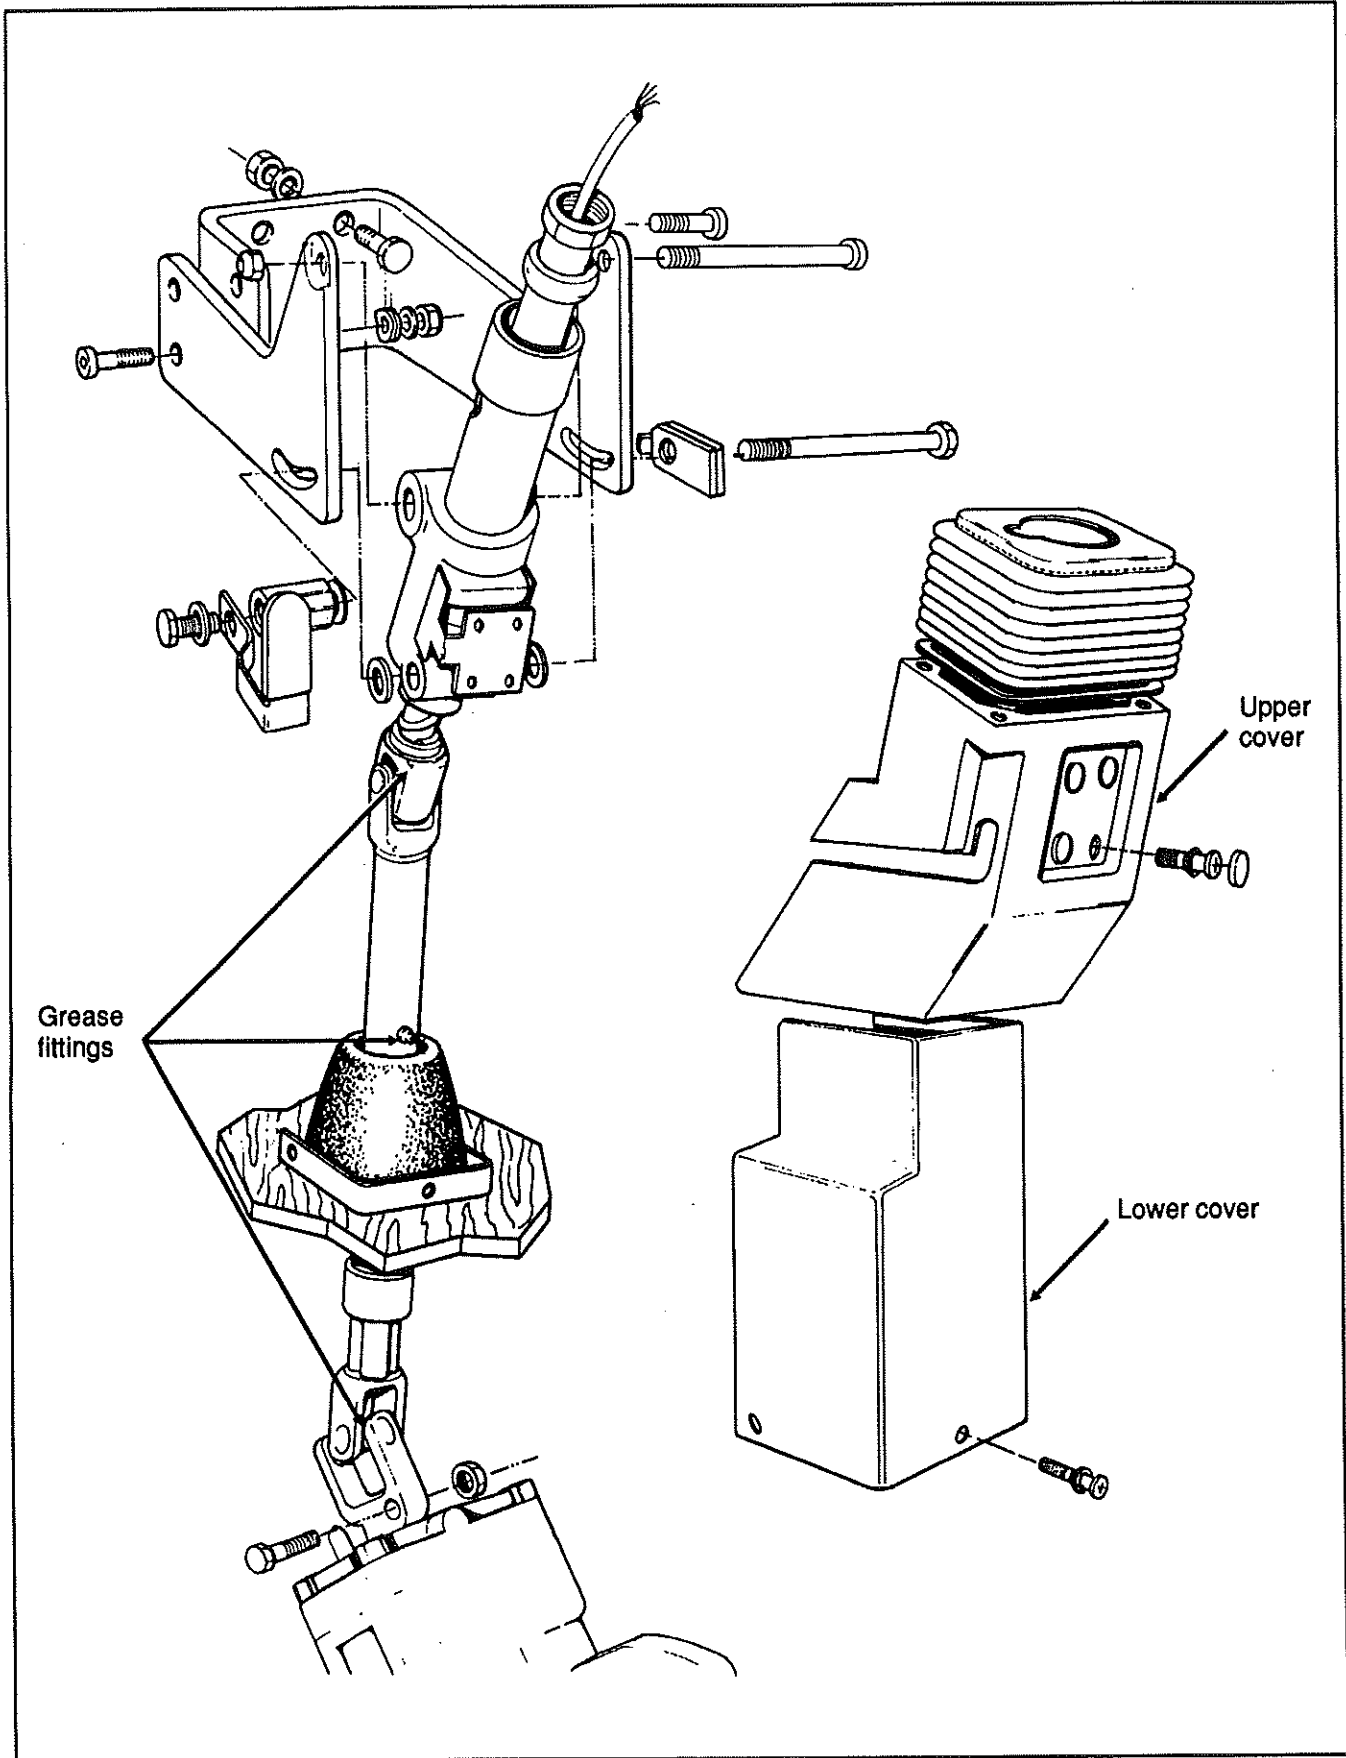

FIG. 4 - Steering column
To disassemble the steering column, refer to figure 4 as a guide. The steering column has three lubrication points which must be serviced once a year using molybdenum disulphide grease.
1. From the driver's area, unfasten and lift the steering column boot, then remove the four snap caps on front of upper steering column cover (refer to fig. 4).